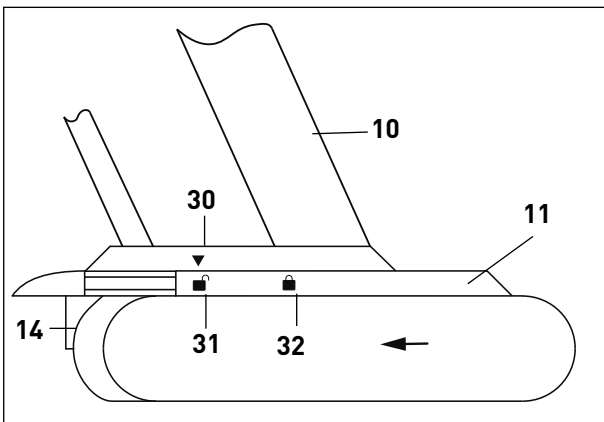

Figure 3
Step 2 - Attach the Battery - Figures 3 & 4 - To attach the battery (11) onto the bottom of the handle (10), align the arrow (30) on the base of the handle with the open lock symbol (31) on the battery (figure 3). The battery will then be lined up between the grooves on the handle base. Slide the battery toward the front of the handle until the arrow on the base of the handle (30) is lined up with the locked symbol (32) on the battery and it clicks into place (figure 4).